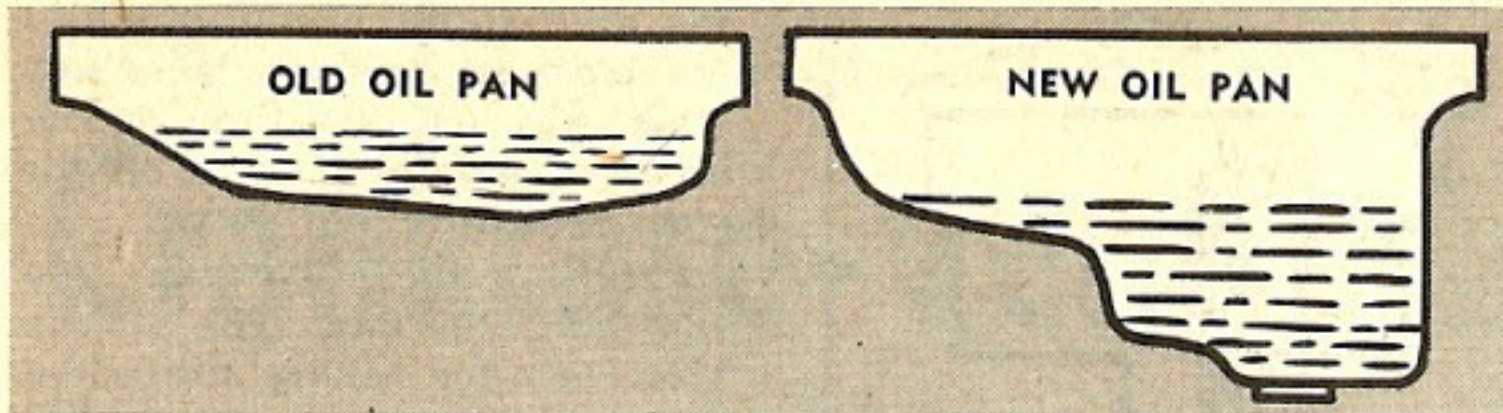

Fig. 3—Not so much splash in the pan with the new model. It's deeper, keeping the oil farther away from the crankshaft.
(2) Overfilling the crankcase is a good way to get the oil whooped out. Normally there's lots of circulation and agitation of the oil as the truck drives. Too much oil invites too much agitation. So when you get an extra dose of blow-by in the crankcase and the pressure starts to go out the breather, it's more tempted to take the foam and whipped oil out with it. The remedy is to fill your crankcase **exactly** FULL. Even an 1/8" over the FULL mark is overfilling. Park your truck on level ground and give the oil a chance to run down for 10 minutes or so before you take a reading on the dipstick (or check the level before operation). That's the accurate way. You may notice that the oil pan has a new profile on the more recent GMC 2½-ton trucks. It's a deeper pan (Fig. 3).